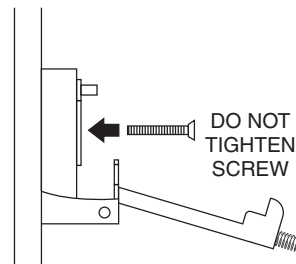

Figure 18
1. Insert screw “J” through slot in frame into bottom hole. (Figure 18)